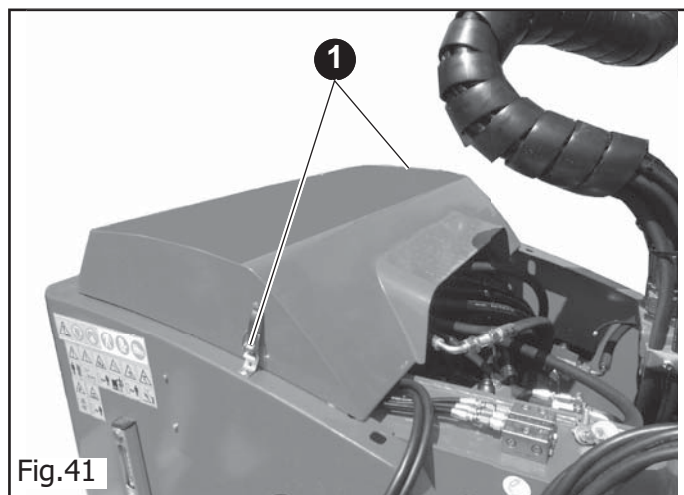

Fig.41
- Release the two safety stops of the guard. (1 Fig.41)
- Lock the safety stops. (1 Fig.41)